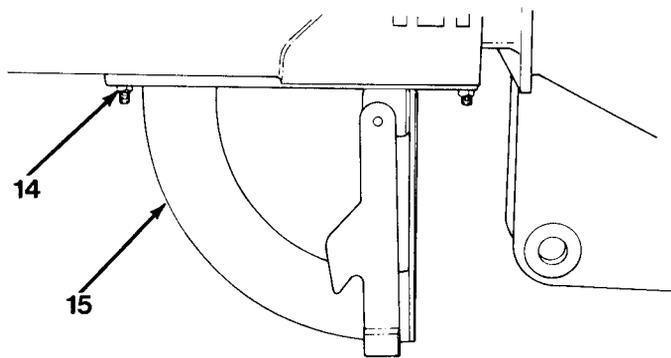

Figure 15-7
16. Install boom angle indicator (15) and four lock nuts (14, Figure 15-7).